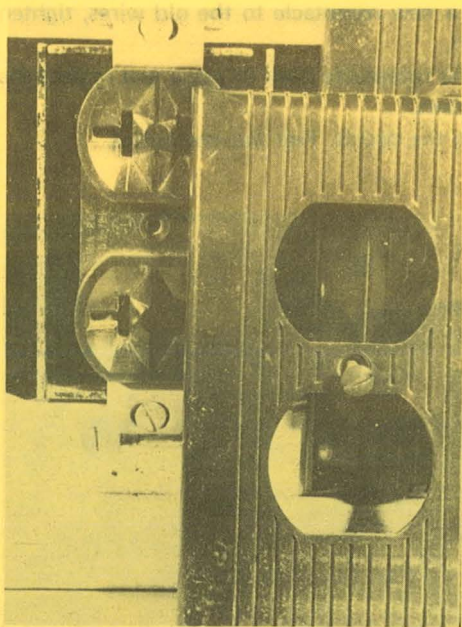

Figure 2
3. Take off the cover plate by removing the center screw (Fig. 2).